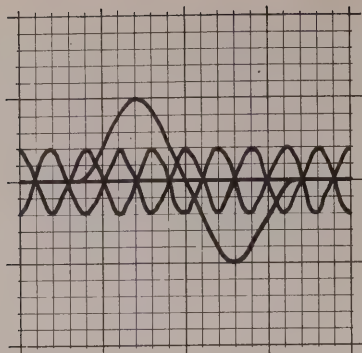

FIG. 11 DISCRIMINATOR RESPONSE - 400 CYCLE MODULATION
9. Rotate the SIGNAL SELECTOR to MOD. RF. If the Discriminator Secondary is not in perfect alignment, a 400 cycle modulation pattern should appear along the base line of the S curve. See Fig. 11.